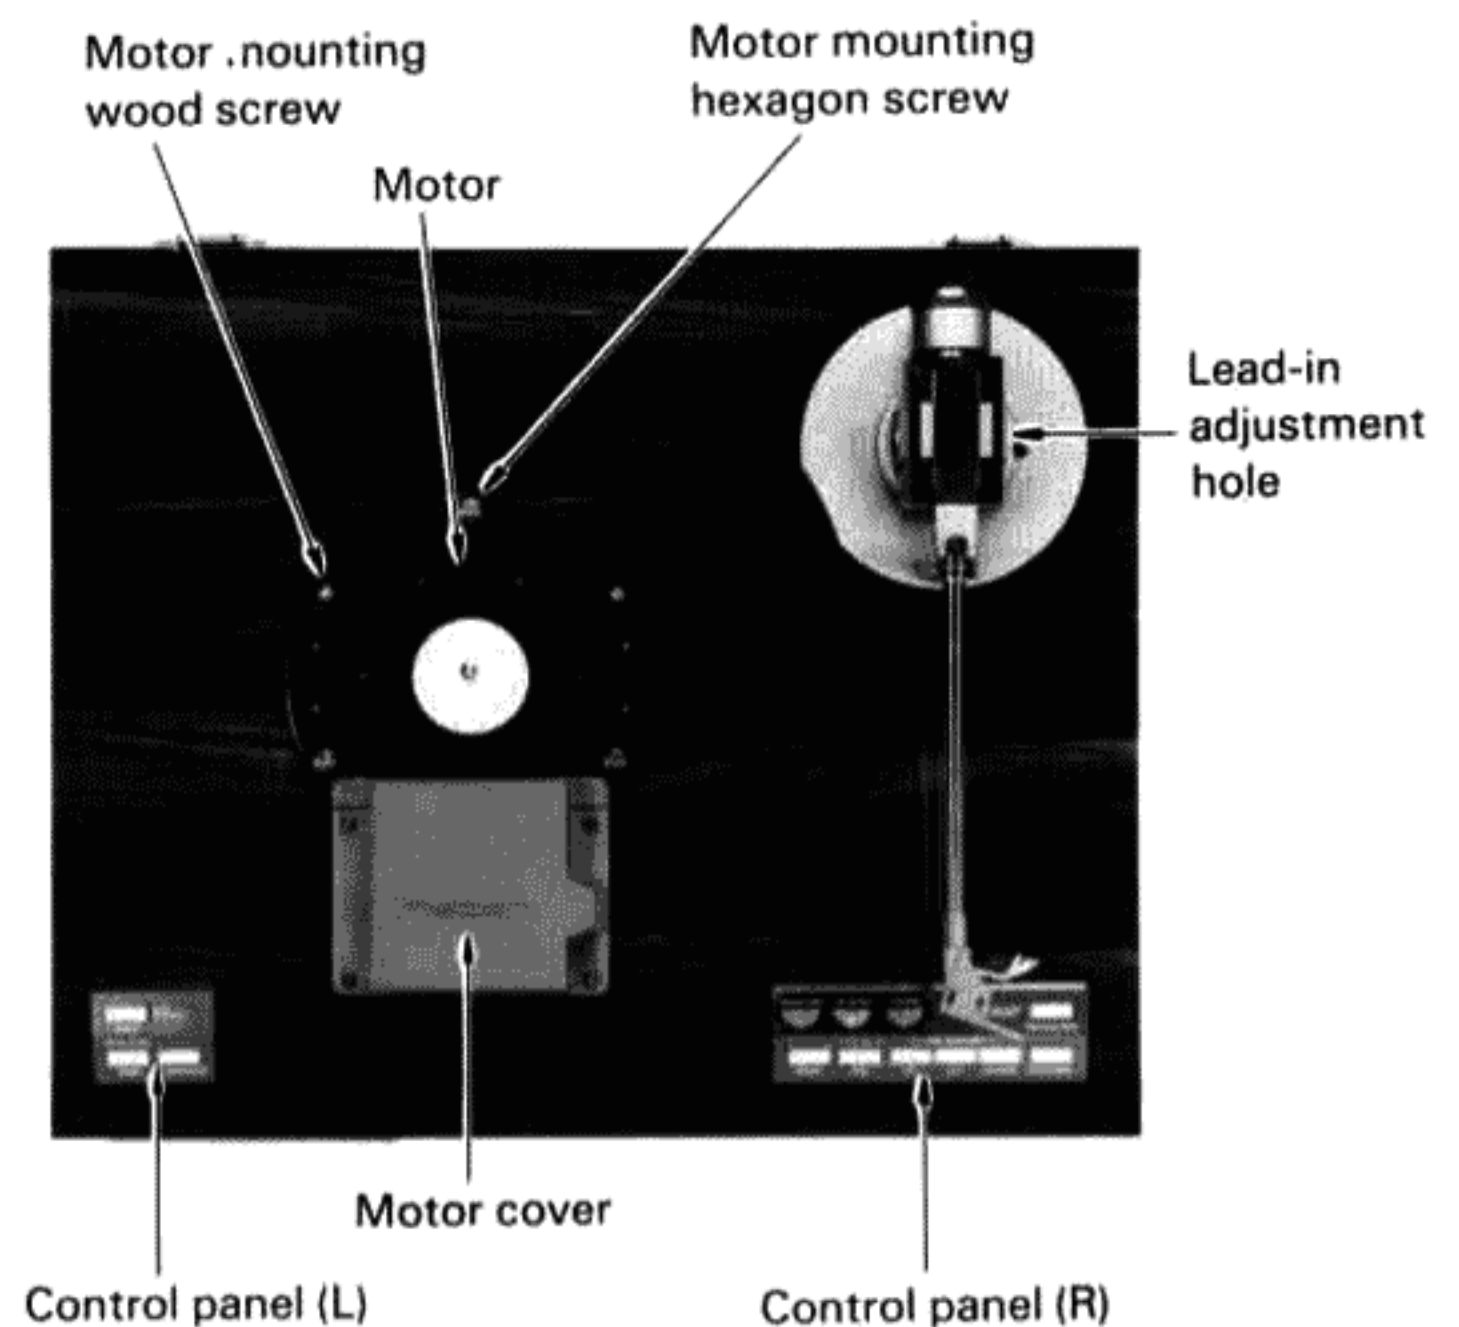

Fig. 26
## ■ Removal of tonearm section (Figs. 26 and 27)
■ **Removal of control panel section (Figs. 26 and 29)**
■ **Removal of LEDs on control panel section (Figs. 26 and 29)**